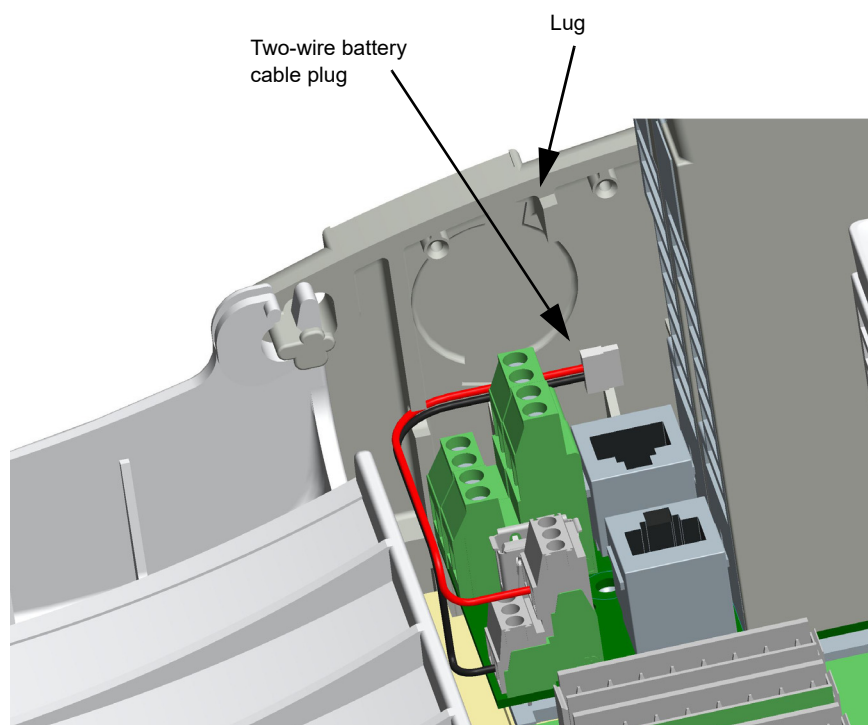

Figure 117 Battery board removed
4. Carefully manoeuvre the battery board off from the plastic side panel. Unplug the two-wire cable from the board end (Figure 117).